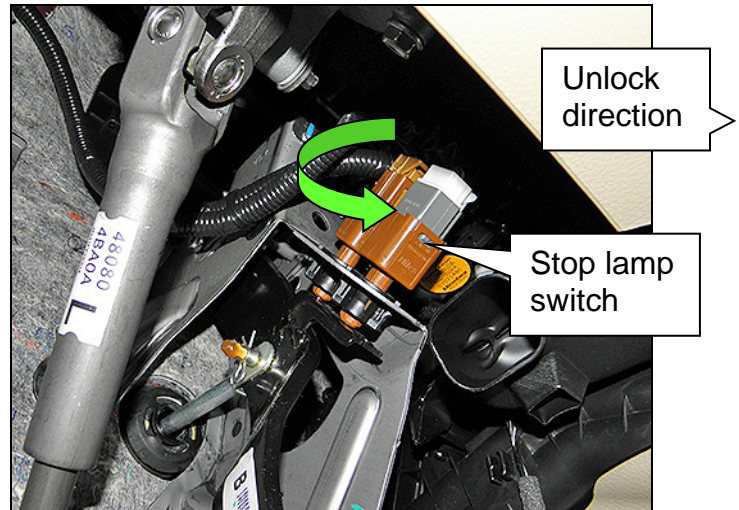

Figure 14
1. Turn the stop lamp switch (bottom switch, Figure 14) 45° counterclockwise to unlock.